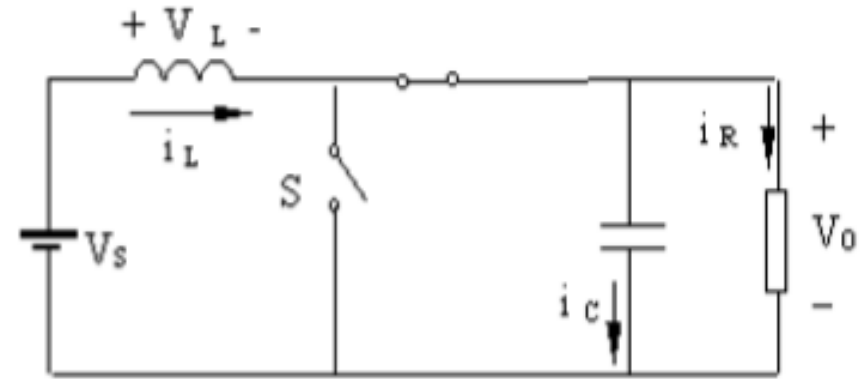

Fig. 6.7-Boost Converter: Mode 2
- In this mode, the switch is open and the freewheeling diode is forward biased to provide a path for inductor current. The equivalent circuit for this mode is given in Fig. 6.7.